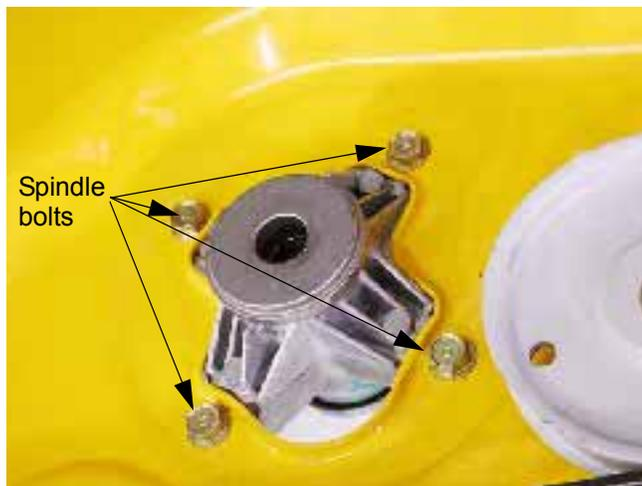

Figure 4.6
- 4.6. Using a 1/2" socket and extension remove the four bolts holding the spindle housing to the deck. See Figure 4.6.